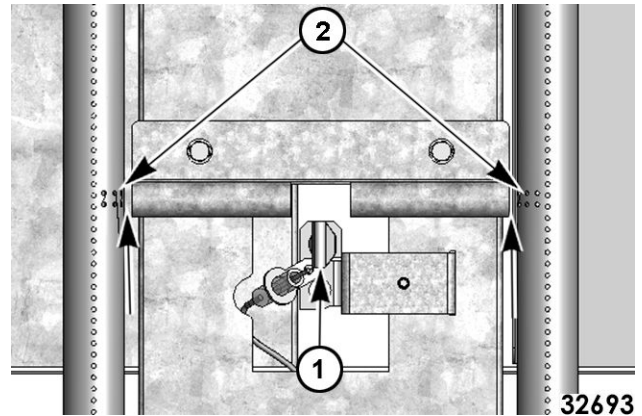

Fig. 18
- With pilot (1, Fig. 18) centered in flash tube opening, center align ignition ports with both sides of flash tube (2, Fig. 18). Verify 1/8" gap between the end of flash tube and burner on both sides.